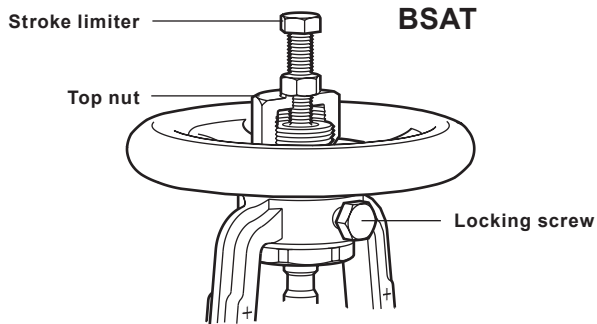

Fig. 8
- 5.4** BSAT valves are fitted with a throttling valve plug to allow close control when opening the valve. The number of turns open will affect the flowrate through the valve. Once correct flowrate is obtained ensure the locking screw and stroke limiter (see Fig. 8) are tightened. This will minimise any vibration.